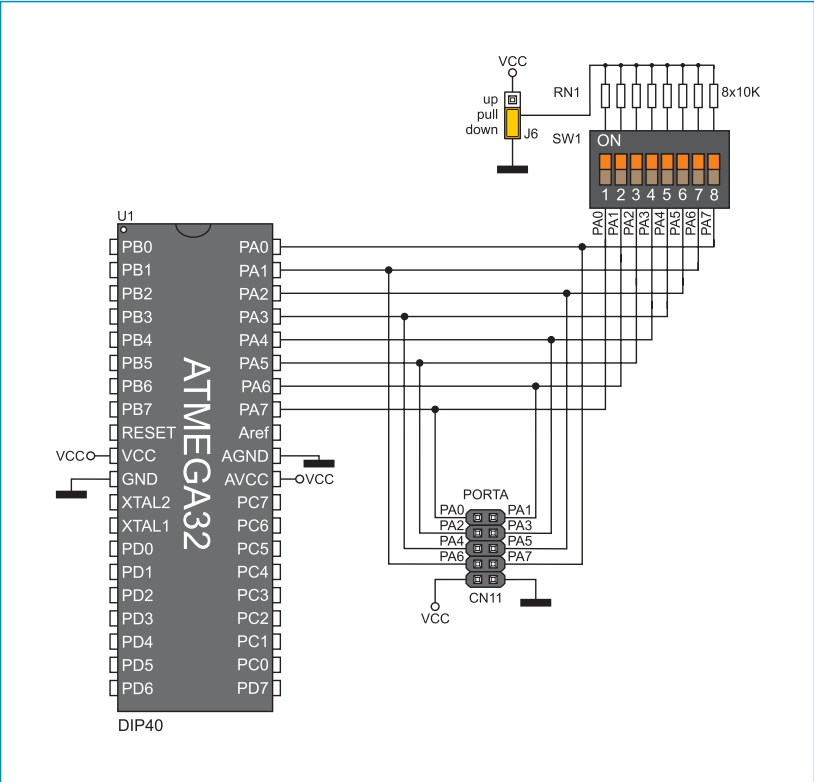

Figure 13-4: Port PORTA connection schematic
In Figure 13-4, the PORTA pins are driven low (0). It means that jumper J6 is placed in the pull-down position, whereas switches on the DIP switch SW2 are set to the ON position.